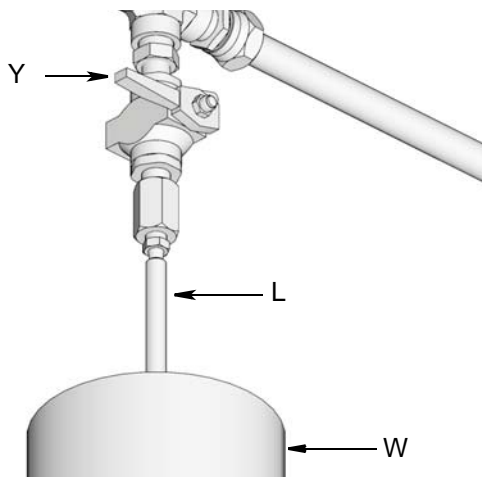

FIG. 23:
- a. To relieve pressure between the Refill Pump (F) and Auto-Fill Shut Off (B), open ball valve (bv) (FIG. 23). Pressure will be released and excess fluid will drain out of the drain tube (L) and into the lubrication overflow container (W).